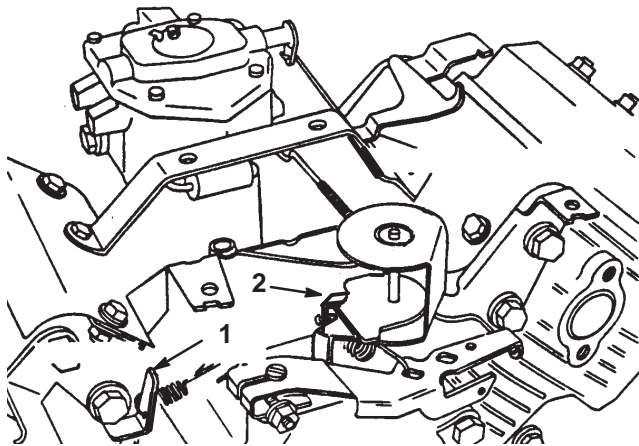

Figure 46
3. Bend the governed idle spring anchor tang (Fig. 46) to attain an idle speed of 1450 ± 50 RPM. Check the speed with a tachometer.
5. Move the throttle control to the Fast position. Bend the high speed spring anchor tang (Fig. 46) to attain a high speed of 2850 ± 50 RPM.